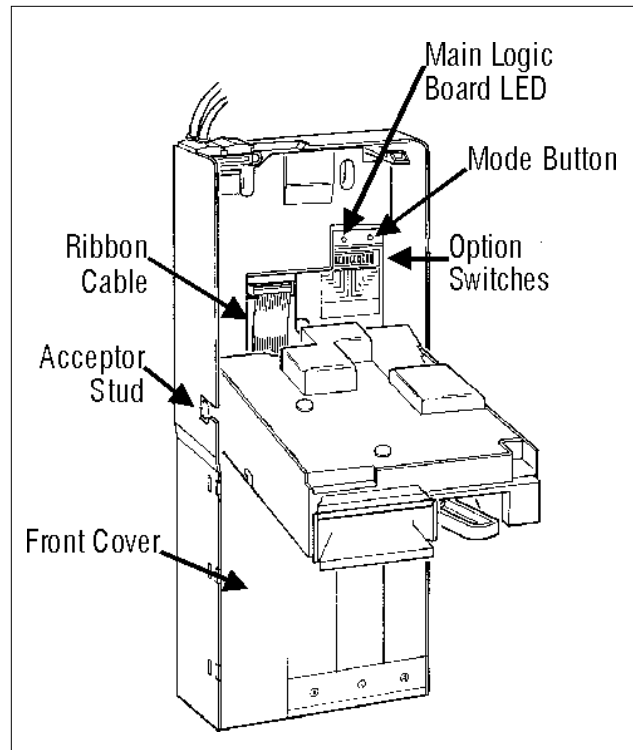

Figure 2
4. Re-install the acceptor by inserting the lower acceptor studs into the changer housing guides. Plug the ribbon cable into the changer (see Figure 2).
Located behind the acceptor in the middle right hand side of the changer housing are twelve switches (see figure 2). The vend price is set using the first eight switches, the last four switches are used to enable or disable different options.
Located behind the acceptor in the middle right hand side of the changer housing are twelve switches (see Figure 2). The vend price is set using the first eight switches, the last four switches are used to enable or disable different options.
Located directly above the Option Switch Module is the Main Logic Board LED and the Mode Button (see Figure 2).